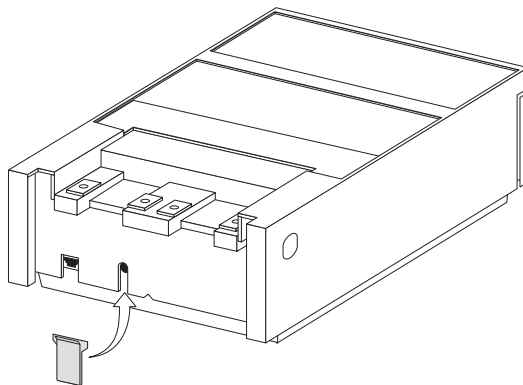

Figure 93. Removing the security clip (compact cash drawer)
4. Remove the security clip (see Figure 93).